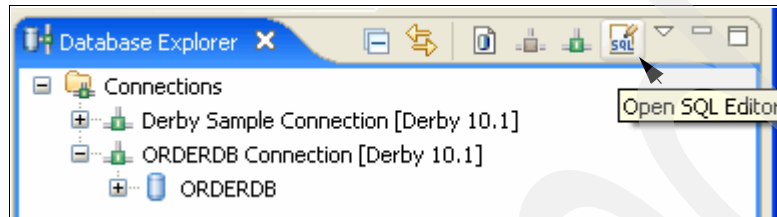

Figure A-3 Open SQL Editor icon
1. Click the **Open SQL Editor** icon as shown in Figure A-3 to open a **New\_Statement\_1** tab.